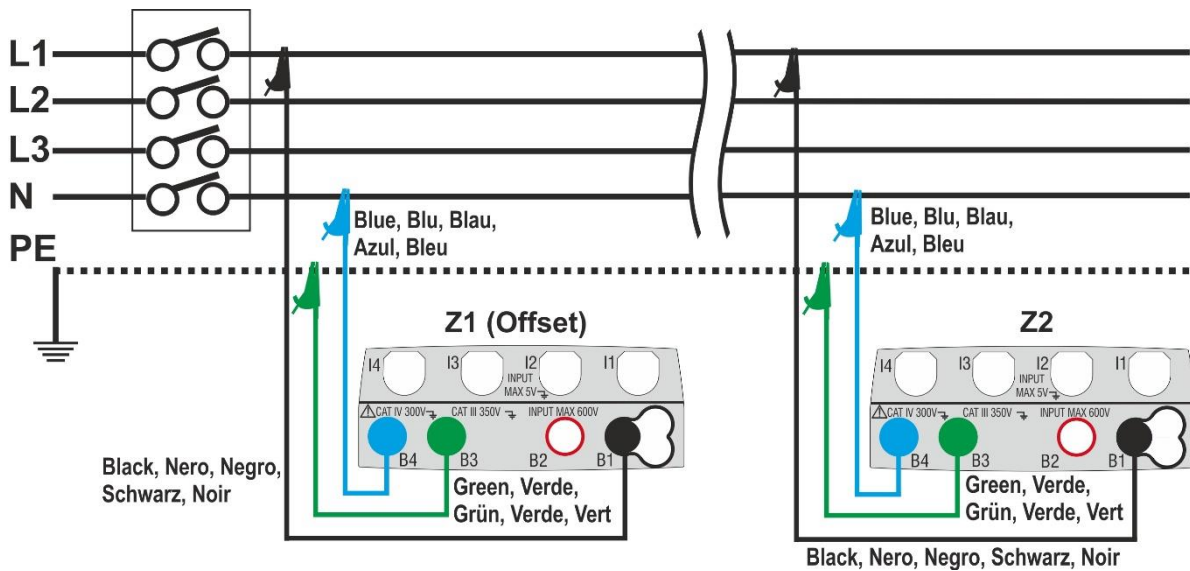

Fig. 34: Connection of the instrument for L-N mode voltage drop measurement
- 10 Go to step no. 9 in case the value of Z1 (Offset) has been set manually. **In case of the value of Z1 (Offset) has NOT been manually set** connect the instrument to the initial point of the main line being tested (typically downstream to a protection device) according to Fig. 34 or Fig. 35 in order to carry out the first **Z1 (Offset)** impedance measurement. In this case the instrument will measure the impedance upstream of the initial point of the main line being tested taking it as start reference. The following screen (referred to L-L measurement) appears on the display
13 Connect the instrument to the final point of the main line being tested according to Fig. 34 or Fig. 35 in order to measure the **Z2** impedance at the end of line. The screen to the side is displayed. Note the previously measured Z1 (Offset) value displayed